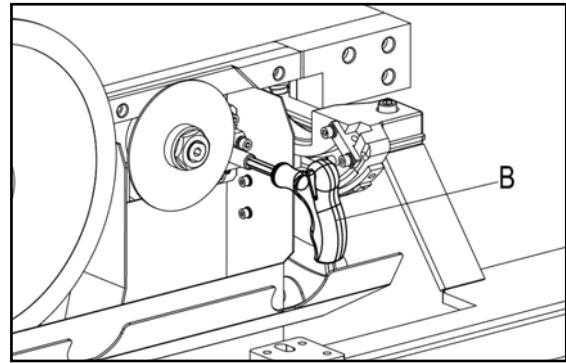

Fig.38
2. Hex wrench (B), right revolve, scoring blade go forward, left revolve, scoring blade fall back, as **Fig.38**.